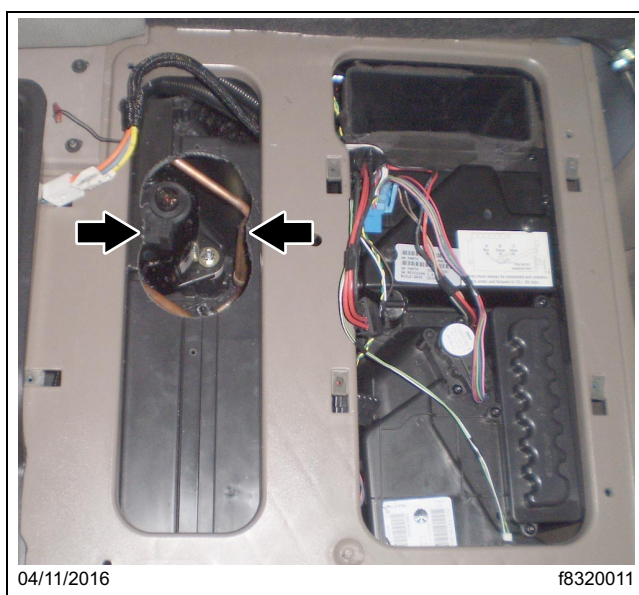

Fig. 7, Trimming the "Points"
11. Trim the "points" created by the overlapping holes as needed. See **Fig. 7**.